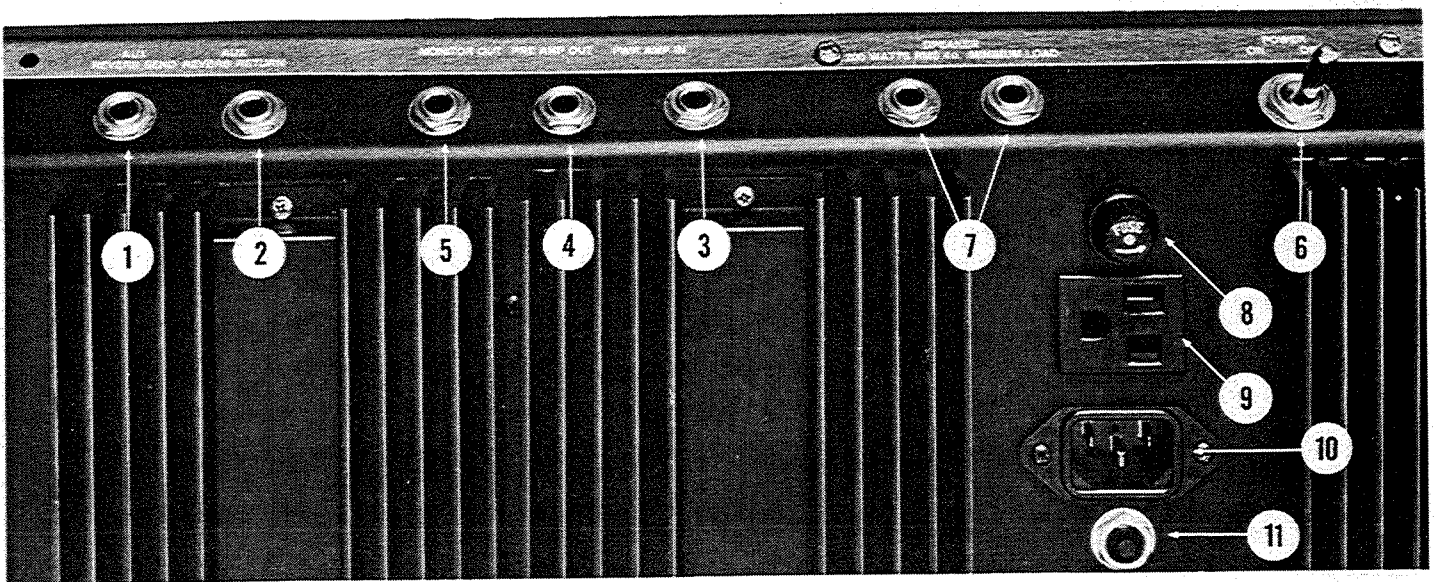

FIGURE 10 — Rear Panel
Auxiliary Reverb Send (Fig. 10 - Item 1)
Auxiliary Reverb Return (Fig. 10 - Item 2)
Power Amp Input (Fig. 10 - Item 3)
Pre-Amp Output (Fig. 10 - Item 4)
Monitor (Pre-Amp) Output (Fig. 10 - Item 5)
Power On/Off Switch (Fig. 10 - Item 6)
Speaker Output (Fig. 10 - Item 7)
Speaker Fuse (Fig. 10 - Item 8)
Accessory AC Outlet (Fig. 10 - Item 9)
Line Cord Receptacle (Fig. 10 - Item 10)
Circuit Breaker (Fig. 10 - Item 11)
Remove the 120 VAC power cord from the inside of the Mixer cabinet top and plug it into the AC socket in the rear of the Mixer (Fig. 10 - Item 10). An accessory AC outlet (Fig. 10 - Item 9) is provided directly above the power cord socket. **DO NOT** remove the grounding prong of the AC plug — it prevents hum and possible electric shock. If necessary, use a three-prong to two-prong adapter.
6. Turn the power switch on (Fig. 10 - Item 6). If the VU Meter does not light up, check the power cord connections and the circuit breaker. If it lights up but no sound comes from the speakers, check the speaker cable connections and the speaker fuse on the rear of the Mixer (Fig. 10 - Item 8).
If the MA6 is to be used as an expander with another Master unit, the Pre-Amp Out jack (Fig. 10 - Item 4) and the Monitor Out jack (Fig. 10 - Item 5) should be connected to the Master unit. Use the Master section controls of the MA6 as Submasters.
Monitor Out Jack (Fig. 10 - Item 5)
Auxiliary Reverb Send and Return Jacks (Fig. 10 - Item 1 and 2)
Connect the Pre-Amp Output jack (Fig. 10 Item 4) to an electronic crossover. If the MA6 is to be used for bass, use bass speaker enclosures and connect the Pwr Amp In jack (Fig. 10 - Item 3) to the "low" output of the crossover, and connect the "high" output of
To record the main channel signal, connect the tape recorder to the Pre-Amp Output jack (Fig. 10 Item 4).